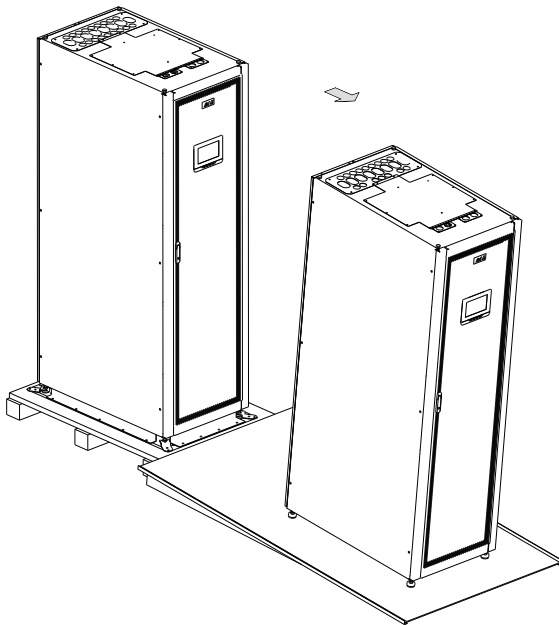

Figure 3-7. Rolling the Cabinet Down the Ramp
6. Slowly roll the cabinet toward the front of the pallet. Continue rolling the cabinet down the ramp until the cabinet is clear of the ramp (see Figure 3-7).